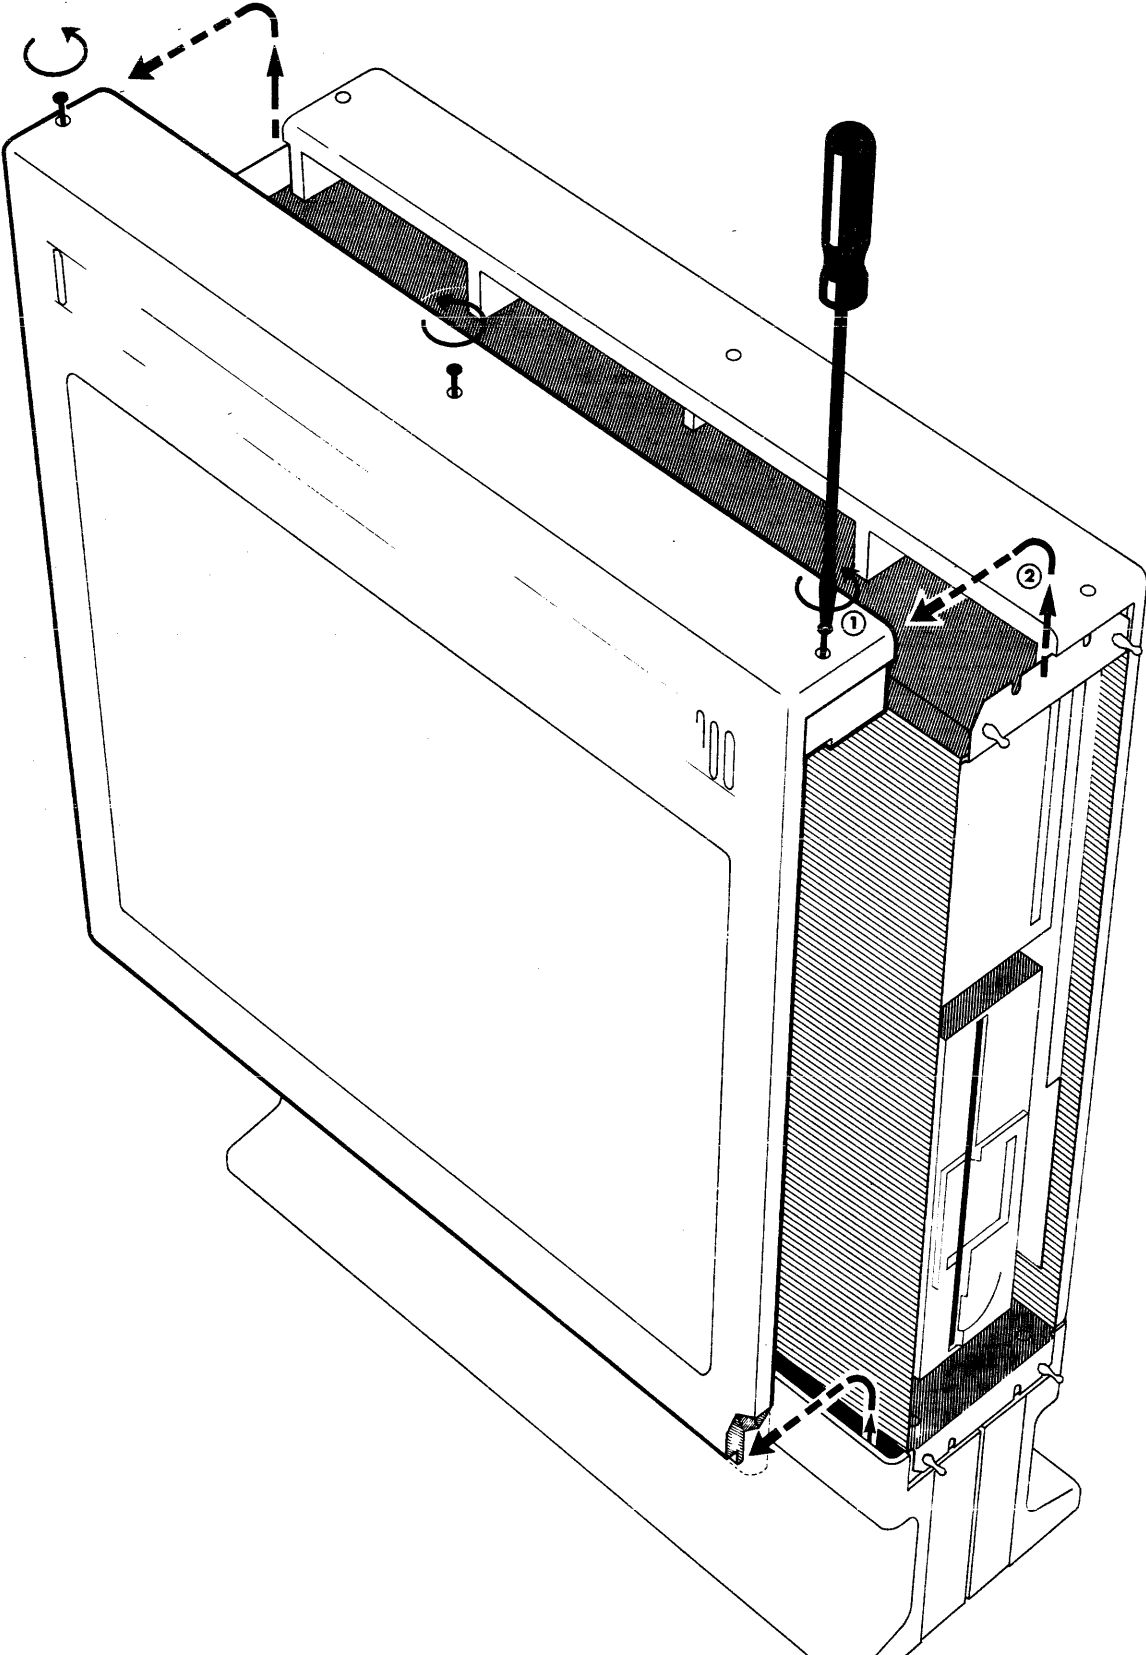

Fig. 10-1 Removal of side panels
3. SIDE PANELS (Floor-mount and table-mount models). Remove the three captive slot-headed screws at the top of each panel. Each panel can now be lifted free from the pedestal. See Figure 10-1. After removing the side panels, place the unit on a bench for disassembly. NOTE: In the case of table-mount models, first fully loosen the four captive slot-headed screws that can be reached through access holes at the lower edges of the sides of the system cover. The cover can then be removed.